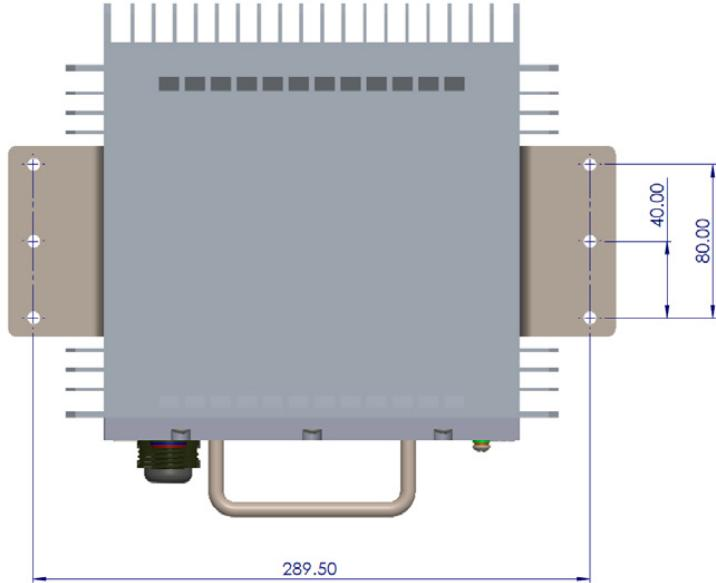

FIGURE 12-1: RX10XX CHASSIS MOUNTING DETAILS
- 2) Mount the unit in the protected area with mounting details provided as per Figure 12-1